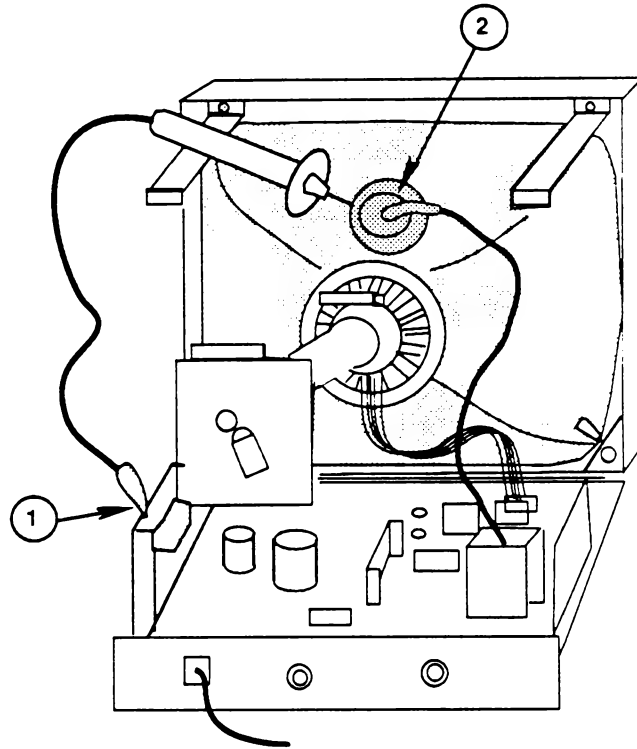

FIGURE 14
4. Attach the clip of the CRT discharge tool to any metal part of the chassis (Figure 14, #1).
6. Hold the CRT discharge tool to the tube surface, and insert its probe under the anode cap (Figure 14, #2) until it touches the anode ring.